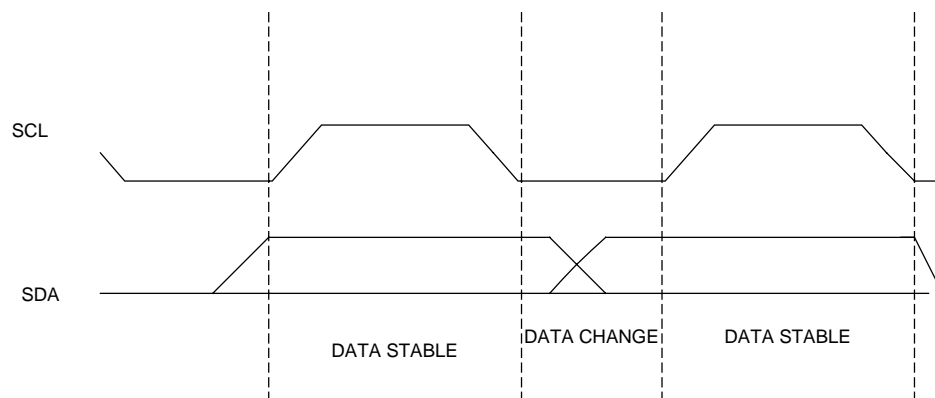

Figure 1
**SPD CLOCK AND DATA CONVENTIONS** - Data states on the SDA line can change only during SCL LOW. SDA state changes during SCL HIGH are reserved for indicating Start and Stop Conditions (Figures 1 and 2).